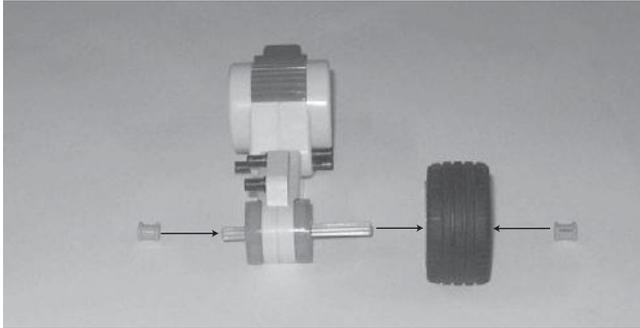

Figure 9.12
Step 3—Connect the completed wheel to the servo motor using one 7M cross axle and two bushings as shown in Figure 9.12.